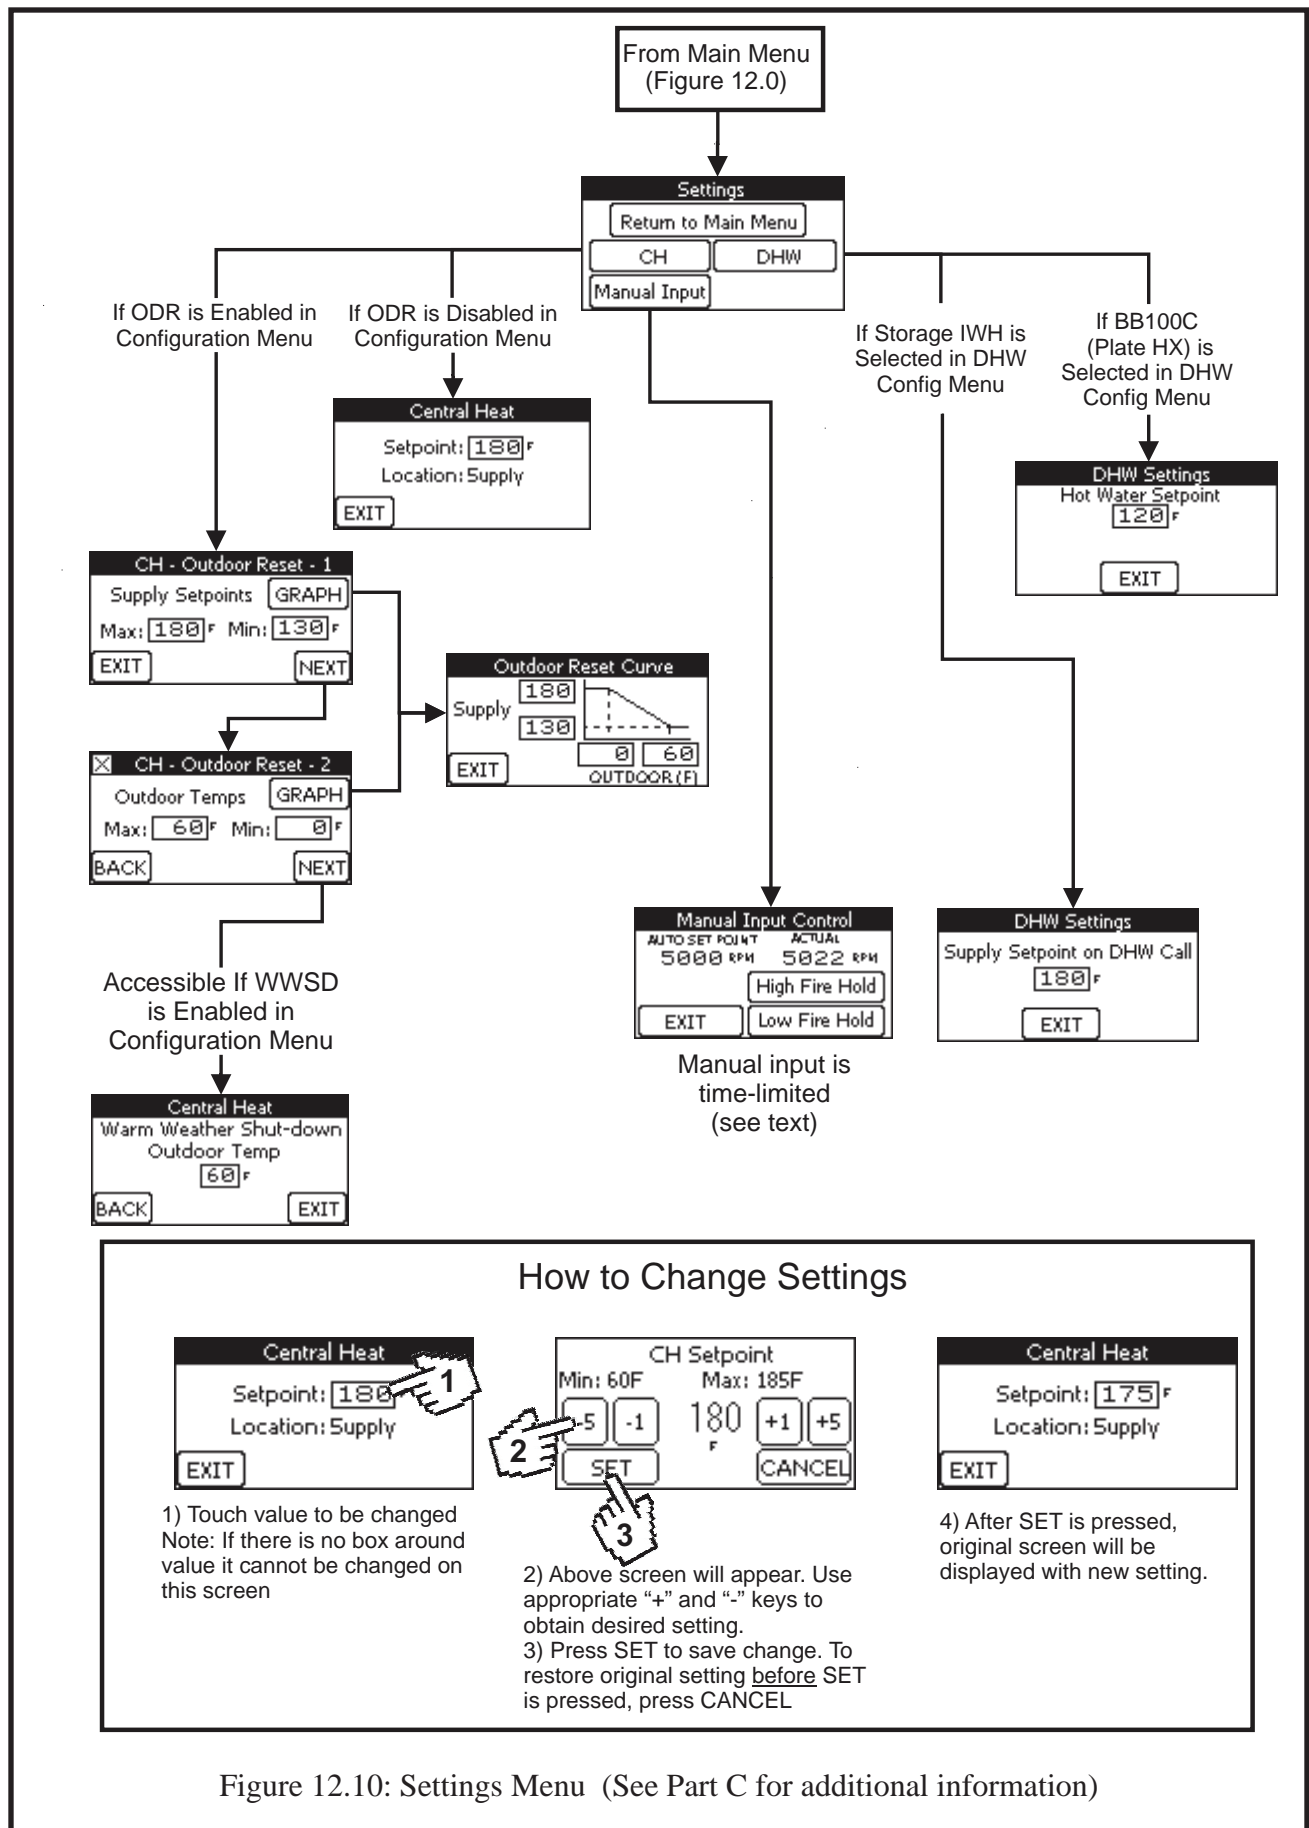

Figure 12.10: Settings Menu (See Part C for additional information)
Use the Settings Menu to change temperature setpoints and to temporarily lock the boiler in high or low fire. On a new installation configure the boiler first, then go to the Settings Menu. A map of the Settings Menu structure is shown in Figure 12.10. To change settings:
a) If outdoor reset is disabled, only one CH setpoint exists. The boiler will always attempt to maintain this temperature during a call for CH. To change the setting, touch the button containing the current setting. Adjust the temperature using the “+” and “-” arrows shown and press SET to save the change (also see “How to Change Settings” in Figure 12.10).
4) Manual Input - From the settings menu, press the MANUAL INPUT button to temporarily lock the boiler into either high or low fire (Figure 12.10). This menu is normally used during the performance of combustion tests. Restore automatic operation by pressing the AUTO FIRE Button. If AUTO FIRE is not pressed, the boiler will remain in manual input until one the following occurs: